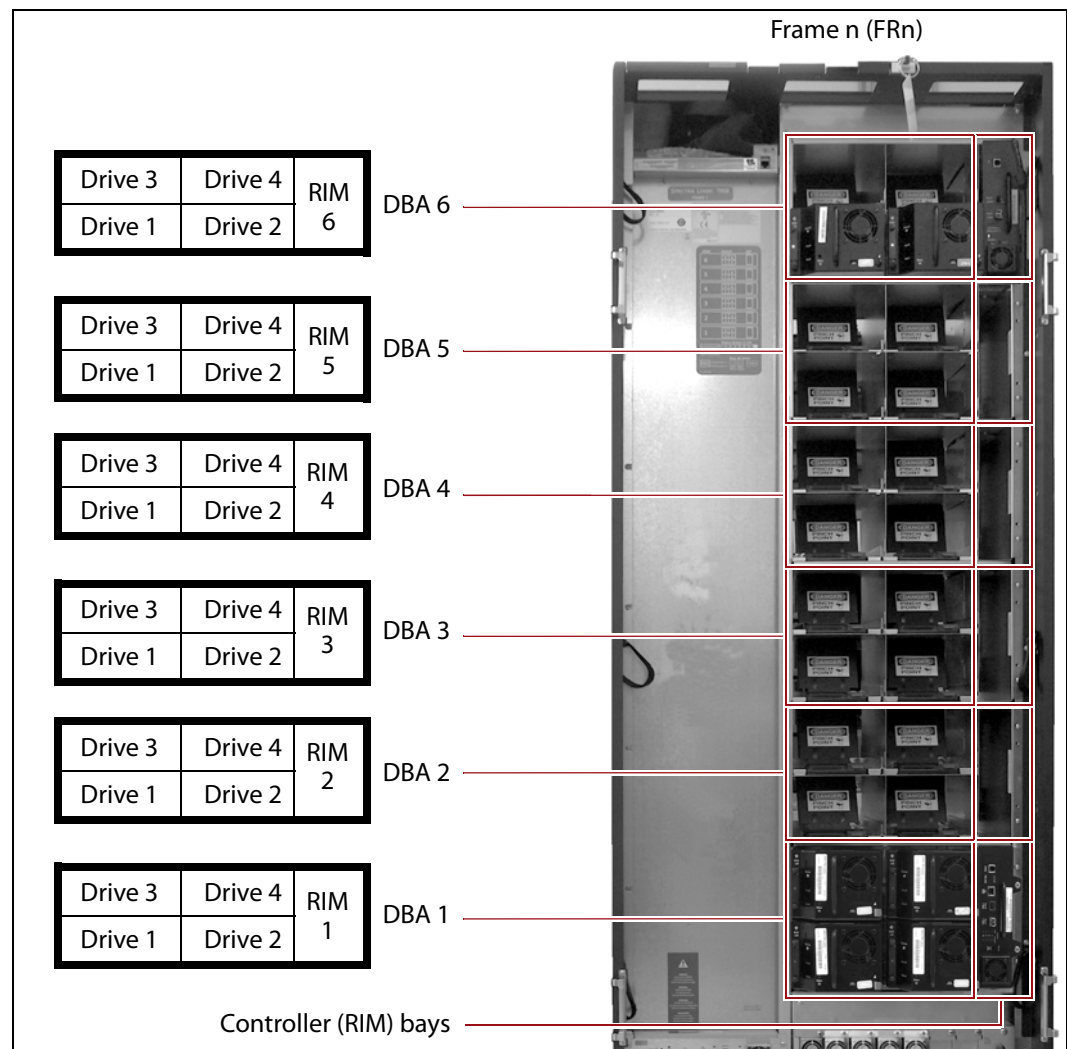

Figure 16 The relationship between the DBA, the component locations, and the identifiers in the BlueScale and XML interfaces (main frame with RIMs shown).
Figure 16 shows the relationship between the DBAs and the locations of the drives and controllers in the main frame.
- **DBAx** is the number of the DBA where the RIM2 is installed (see Figure 16 on page 56). The main frame and each drive expansion frame accommodates up to six DBAs.
The component identifier for each drive is based on its location relative to the frame and the DBA where it is installed, as viewed from the back of the library (see Figure 16 on page 56). The component identifier for a drive is shown as **FRx/DBAx/fTYPE-DRVx**, where: